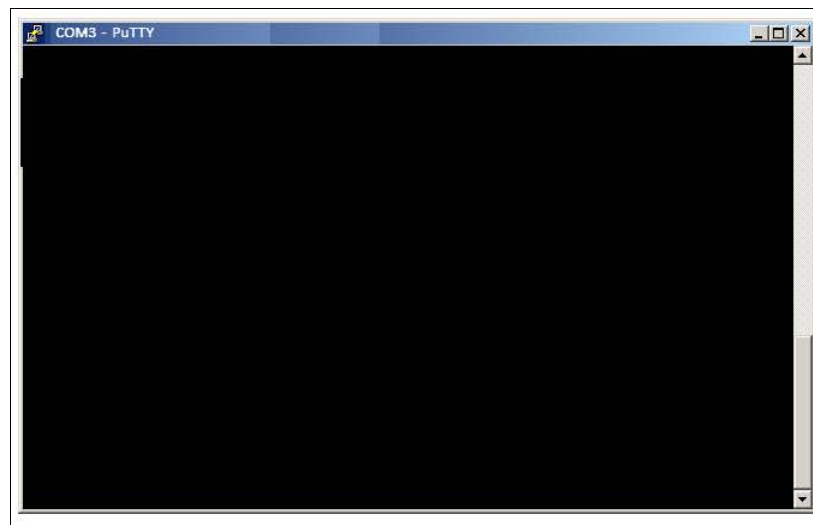

Figure 31. PuTTY Terminal Window
4. Open your preferred terminal program, be sure to select the correct serial port and set the proper baud rate, data bits, stop bits and parity. (Figure 31).